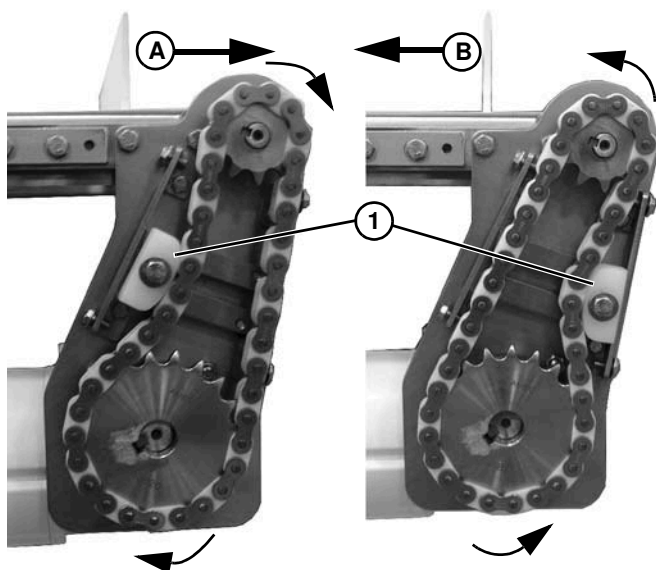

Figure 64
9. Depending on conveyor belt travel (direction A or B of **Figure 64**), locate timing chain tensioner (**Figure 64, item 1**) as shown. Do not tighten tensioner screw.